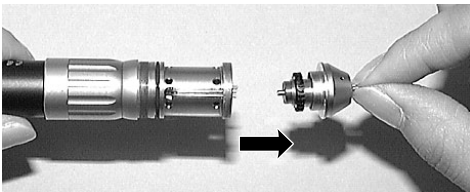

Fig.16
- ② Hold the bur and pull out the cartridge toward the front. (Fig.16) At this time, the O-ring placed on the rear bearing may remain in the body. Make sure to remove the O-ring. Before inserting a new cartridge, clean the head interior.